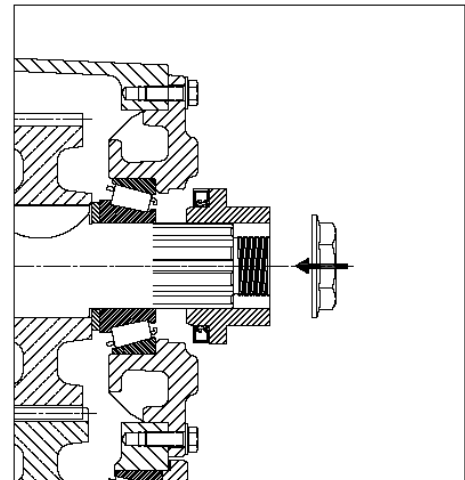

Figure 105
8. Place seal driver on shaft. For input location, drive seal into bore with old nut (688-0738). For Front and Rear output locations, drive seal into bore with old retaining nut. Seal driver will stop when seal is fully seated against shoulder on housing carrier bore. Input installation shown in **Figure 105**.